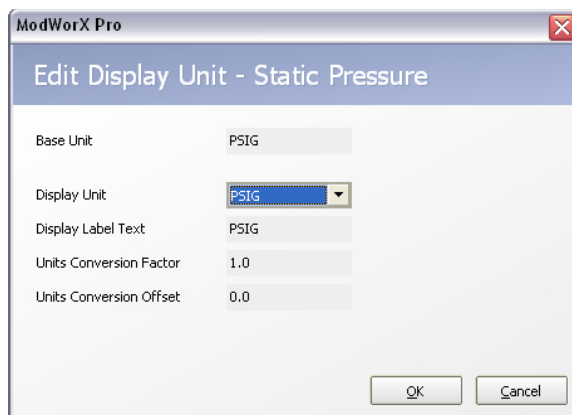

Figure 6.8
- a. Click **Edit**. The Edit Display Unit dialog will appear (Figure 6.8, page 79). The base unit is the unit in which the Scanner measures static pressure from the sensor.